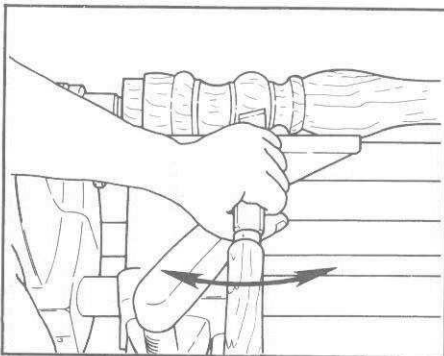

Figure 7. Cutting the beads.
a. Cut the **beads** first. Feed the edge of a skew chisel slowly into the stock, then move the handle of the skew from side to side as needed to shape the beads. (See Figure 7.)